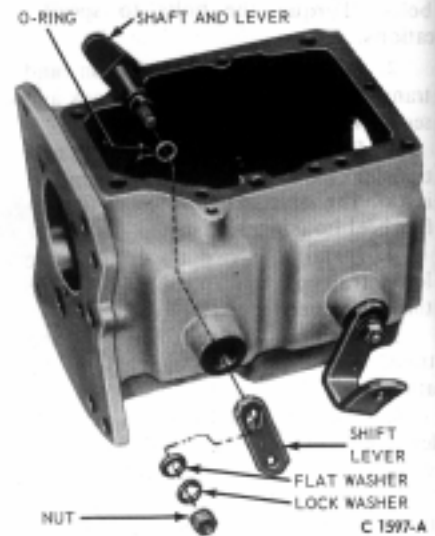

FIG. 17—Shift Lever and Shaft Disassembled
1. Remove the nut, lock washer and flat washer that secures each shift lever (Fig. 17) to the lever and shaft in the transmission case. Lift the levers off the shafts. Slide each lever and shaft out of the case. Discard the O-ring from each shaft.